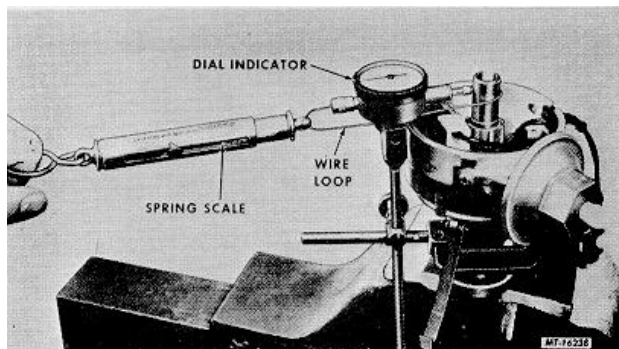

Fig. 11 Shaft and Bushing Wear Test
3. Attach dial indicator to distributor housing so that indicator plunger rests against trigger wheel (Fig. 11).
4. Place one end of a wire loop around top of trigger wheel assembly (rotor shaft). Hook a spring scale in other end of wire loop and pull on a line with plunger of dial indicator (Fig. 11). Wire loop must be perpendicular to shaft to assure a straight pull. Also, loop must not interfere with dial indicator mounting bracket.
5. Apply five (5) pounds of pull on spring scale and read movement of plunger on indicator dial. If plunger movement (distributor shaft side play) exceeds maximum permissible limit (see SPECIFICATIONS), replace distributor shaft and bushings (see Distributor Housing Bushing Replacement).